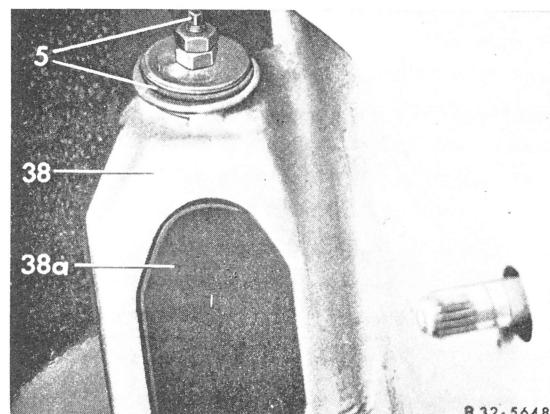

Fig. 4
Upper shock absorber suspension (Fig. 4)
- 7 Unscrew hexagonal nuts on the upper suspension (5) and remove rubber ring (Figs. 4 and 6).